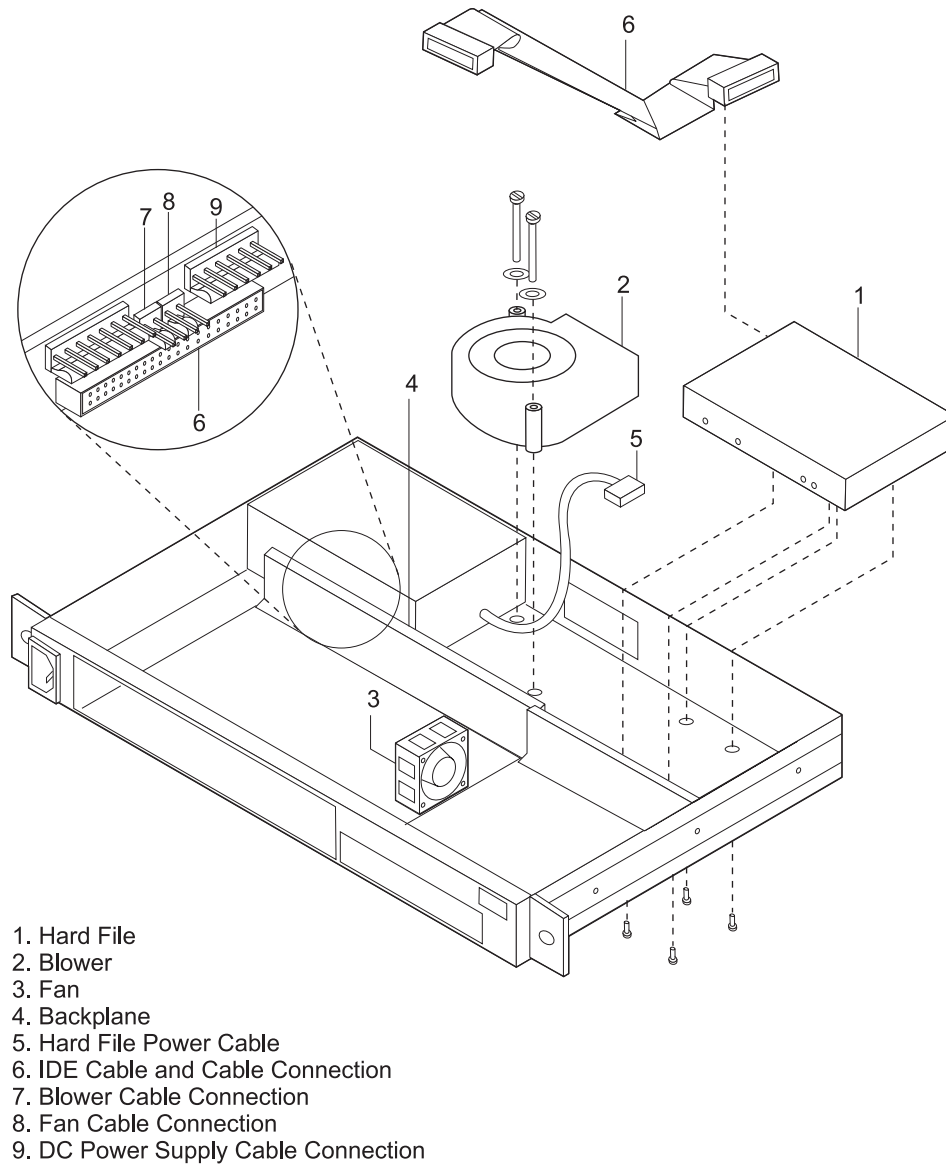

Figure 2-13. Model 1xx Chassis with a Hard Drive
3. **Connect the dc power cable to the backplane at the 6-pin connection. Connect the blower and fan connector cables to the backplane at either 2-pin connection. (See Figure 2-13 on page 2-26.)**
4. Route the hard drive IDE (flat ribbon) cable as shown in Figure 2-13.